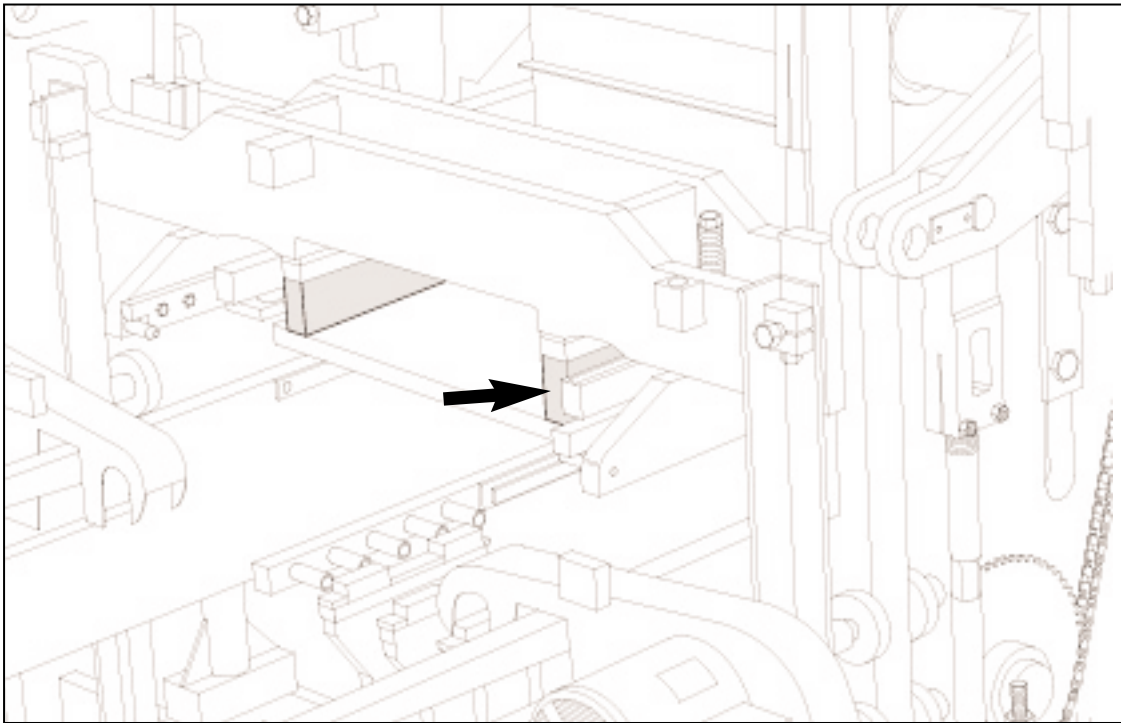

Figure 4.49 95mm [3 3/4"] BLOCKING UNDER STRIPPER HEAD FRAME.
- 4.3.10 The DYNAPAC is now ready for the installation of the mold assembly. Follow the directions for installing an attachment in section 5 of this manual. When installing the stripper head use **279mm [11"]** long bolts (**part #087136**) and insert **95mm [3 3/4"]** of blocking in addition to the **38mm [1 1/2"]** blocks already affixed to the stripper head frame (figure 4.49).